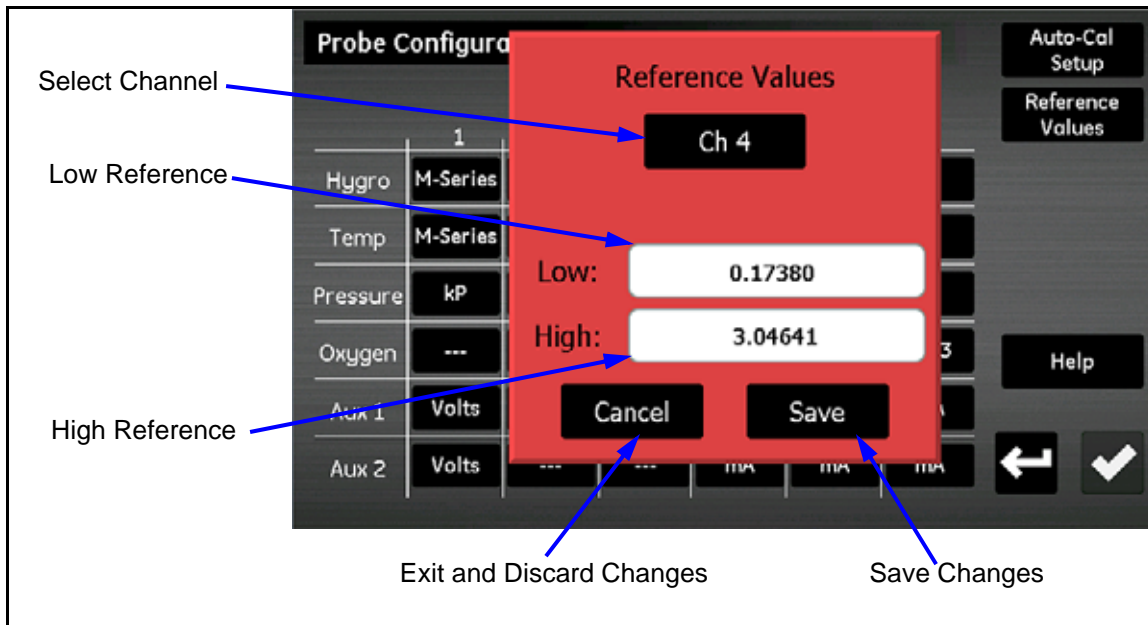

Figure 51: Adjusting the MH Reference Values
1. From the *Probe Configuration* window, tap the Reference Values button to access the MH reference values for the desired probe (see *Figure 51* below).